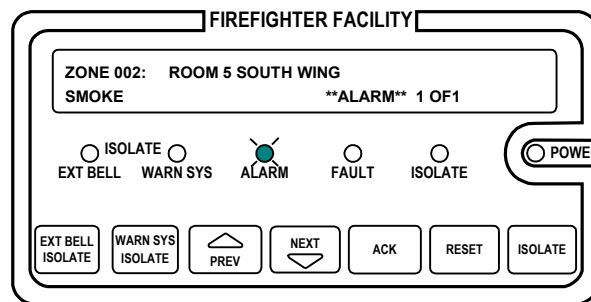

Figure 2-1. Firefighter Facility, Showing Typical Alarm
- Alphanumeric display on the interface panel shows alarm zone, location, type (smoke, call point, etc.), alarm count (for example, 1 of 2), and the status of the alarm condition. An example is shown in Figure 2-1.
The <ACK> key, which is used to acknowledge alarms, is located within the Firefighter's Facility. Refer to Figure 2-1 for its location.